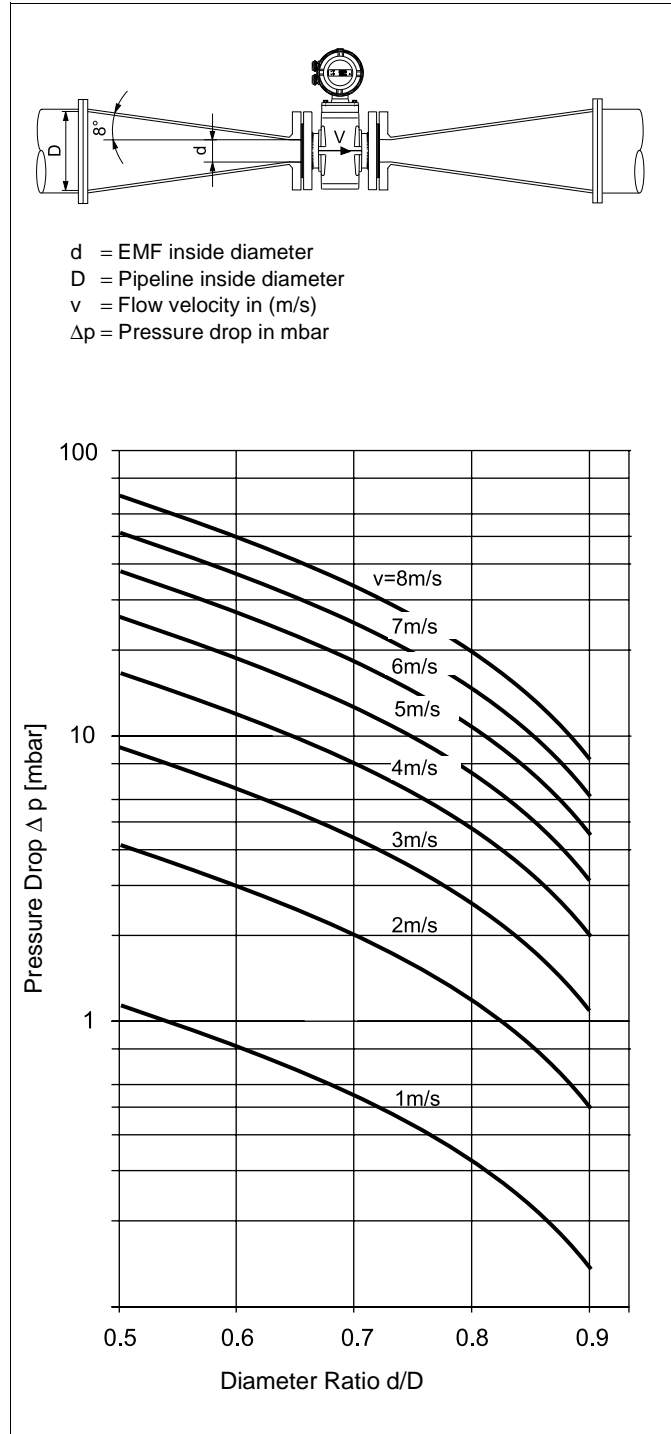

Fig. 11 Nomograph for EMF Pressure Drop Determinations Flanged Reducers with $\alpha/2 = 8^\circ$
The flowmeter can readily be installed in larger size pipelines through utilization of flanged transition sections (e.g. Flanged Reducers per DIN 28545). The pressure drop resulting from the reduction can be determined from the Diagram Fig. 11 by using the following procedure:
3. The pressure drop can be read on the – Y-axis at the intersection of the flow velocity value and the "Diameter Ratio d/D " value on – X-axis in Fig. 11.